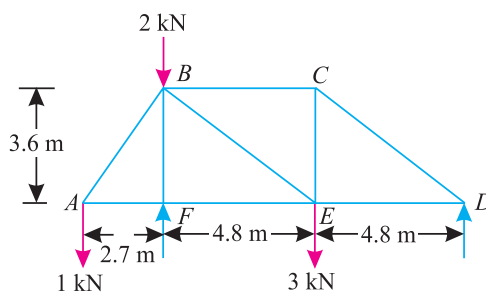

Fig. 14.22.
4. A pin-jointed truss is subjected to three points loads at  $A$ ,  $B$  and  $C$  as shown in Fig. 14.22. Find by any method, the forces in all the members of the truss.